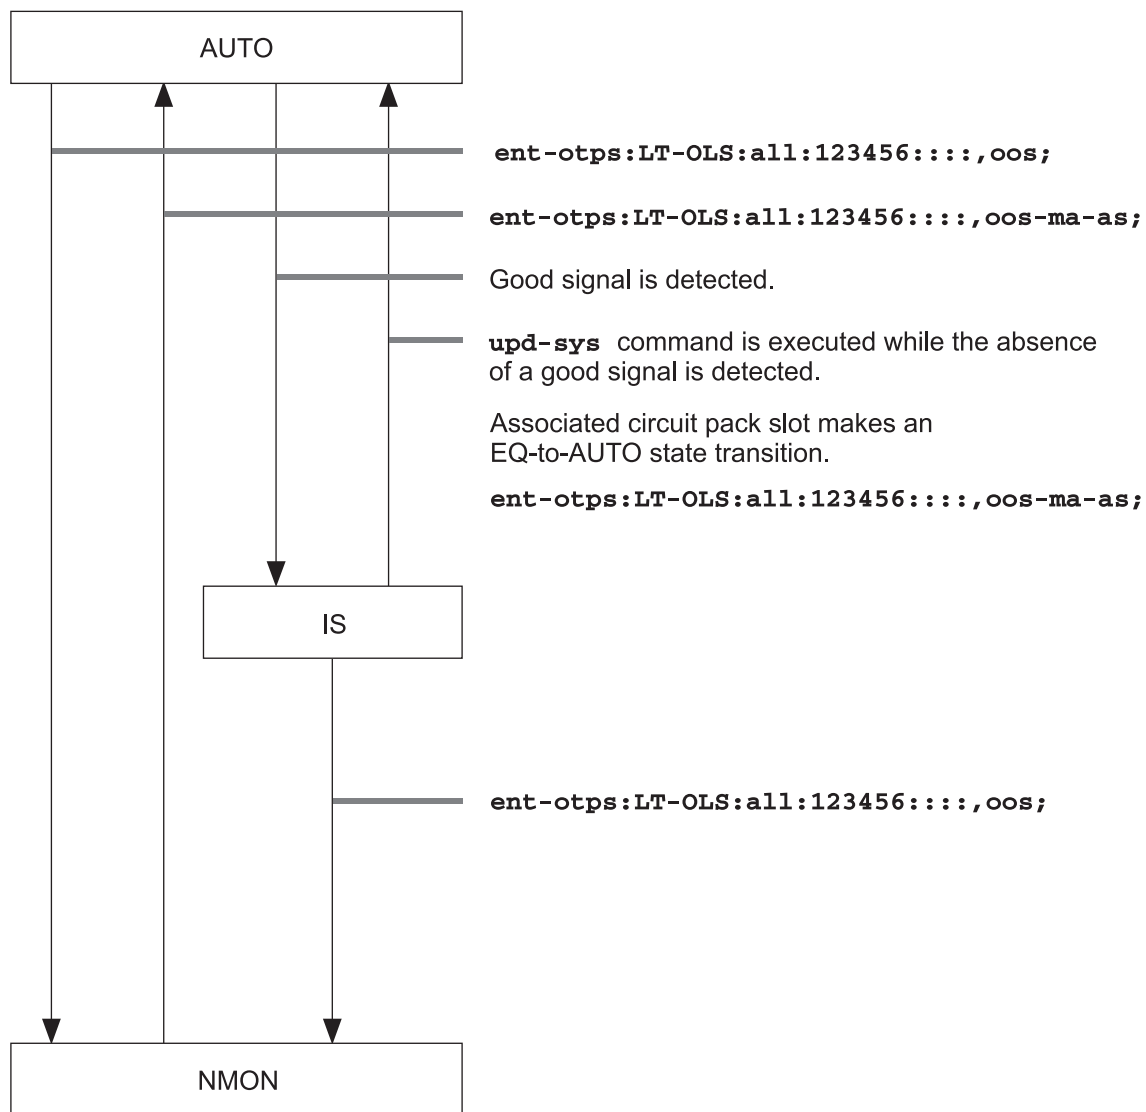

Figure C-5. Optical Translator Port Signal States
■ Figure C-5: Optical Translator Port Signal States	C-7